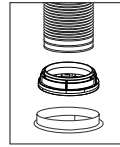

Fig.3
## Connection to exhaust air pipe (Fig.3 & 3.1)
- When attaching the pipe, connect to the air outlet using a reducing connector (provided) (Fig.3).
- Secure both joints appropriately (Fig.3 & Fig.3.1)